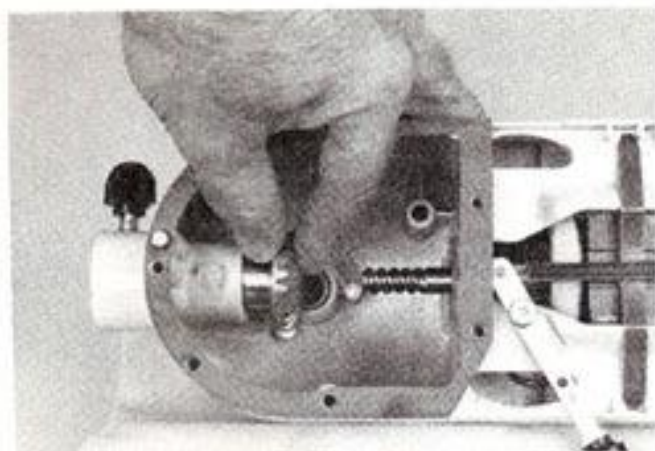

Fig. 14
- I. Remove the attachment hub bevel gear from the gear case and motor housing. This gear can be removed by simply pulling it out of the attachment hub (Fig. 14). It will clear the worm on the motor shaft. Due to the slow speed of this gear, there should be no trouble with the shaft galling and it should be easy to remove.